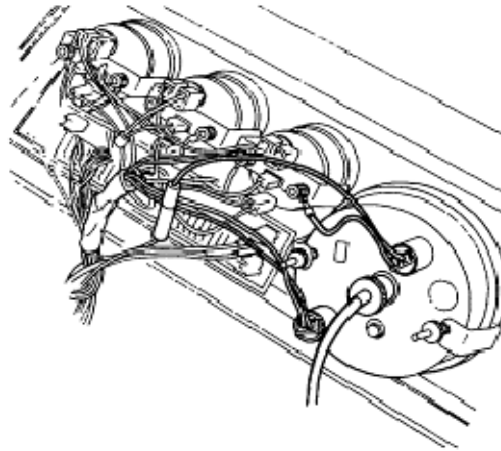

Figure 71 Speedometer Cable Removal
- i. Depress the clip retaining the speedometer cable to the speedometer and withdraw the cable (Figure 71).
- c. Fit the cable on the speedometer ensuring the drive end is engaged and the retaining clip is secure (Figure 71).